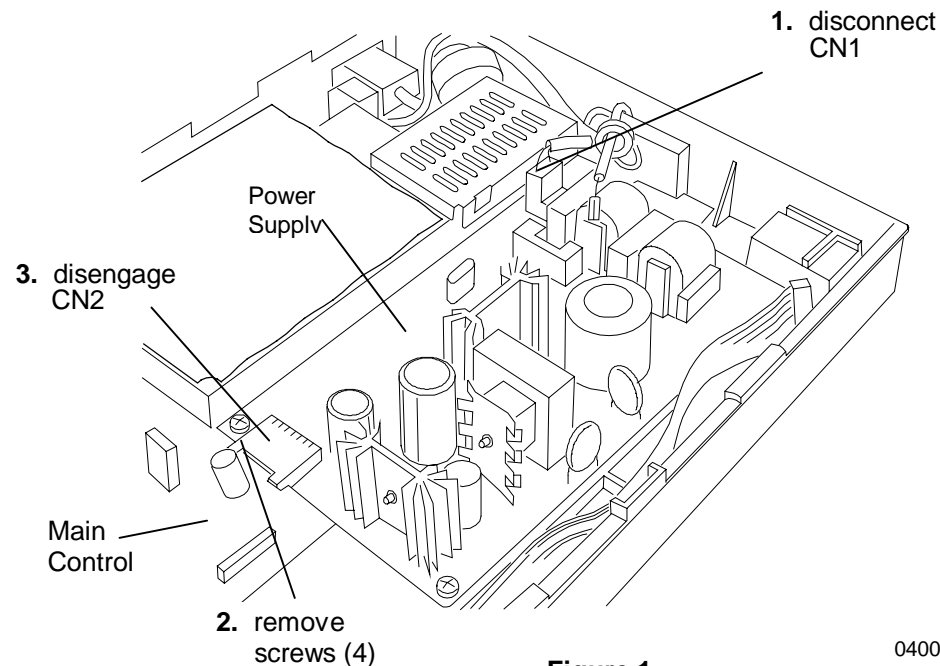

Figure 1.
2. Slide the Power Supply toward the left side of the printer to engage Power Supply connector CN2 with the Main Control Board (Figure 1).